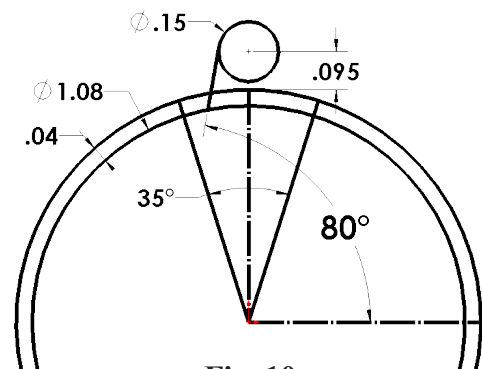

Fig. 10
Step 5. Click **Smart Dimension**  (S) on the Sketch toolbar.
Step 6. Add **80°** dimension, **Fig. 10**.